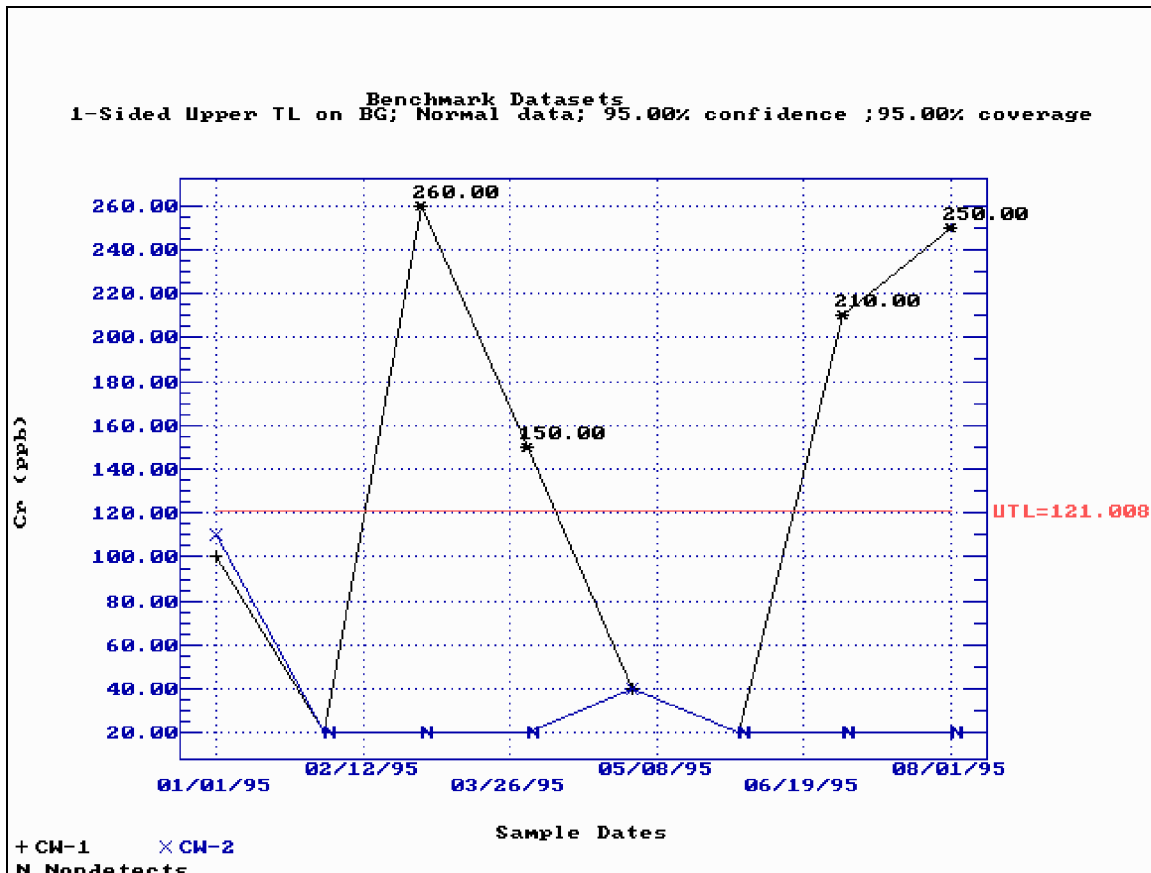

Figure 5-59. One-Sided Upper Tolerance Limit (UTL) superimposed on a time-series plot.
10. Use the **Reports | Display** option to view a graphical representation of the Parametric Tolerance Interval results (Figure 5-59). Individual observations that fall outside of the Tolerance Interval Limits are marked with an asterisk (*).